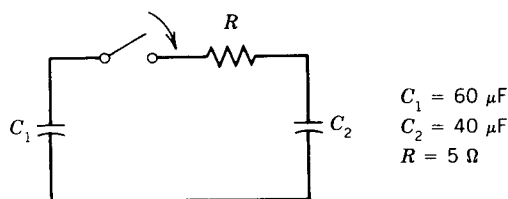

Fig. 2P.1.
- 2.3 How much energy will be dissipated when the switch in the circuit in Fig. 2P.1 is closed.
The capacitor C_1 in Fig. 2P.1 has an initial charge of 1.0 C; C_2 is discharged. Calculate the following: